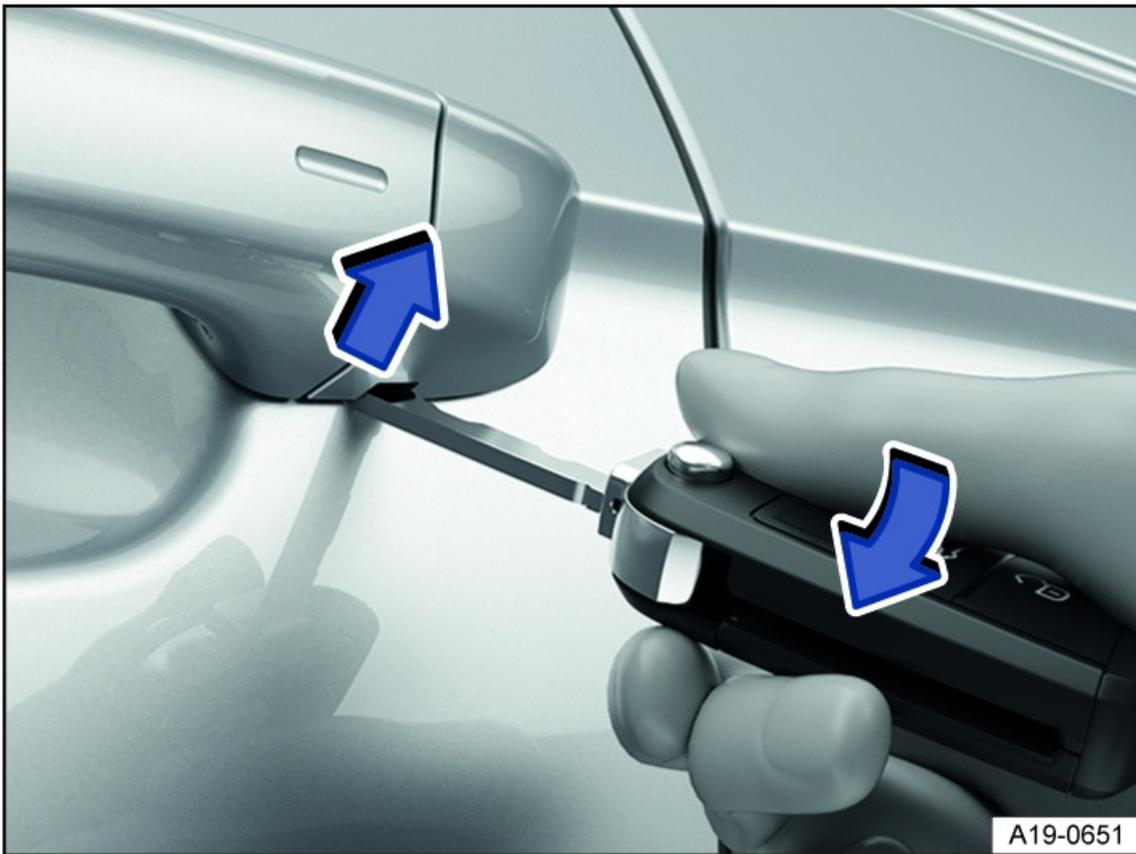

Fig. 53 Driver's door handle: prying off the cap.
3. Use the vehicle key to pry the cap off in the direction of the arrow *fig. 53*.